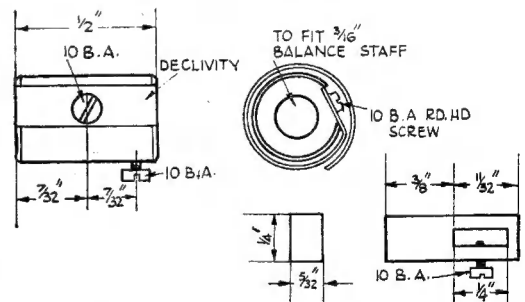

Fig. 20. Control spring collet and stud
Drill and turn up control spring collet from $\frac{1}{8}$ -in. brass rod, reducing the diameter to a fraction under $\frac{13}{32}$ in. Drill and tap two 10-B.A. holes at right angles to each other, and staggered by the distances shown in Fig. 20. File a declivity across the centre screw axis extending tangentially, inwards from the outer circumference to a depth of approximately 0.0165 in. This will give a "flat" of about $\frac{5}{32}$ in. on each side of anchorage screws. Leave the bore slightly under size, so that the final fit on staff can be accurately made by reaming. Polish both sides and edges, and fit two polished and blued 10-B.A. cheese-headed screws, making that for the centre with a well
(1) Bend a short length of the inner turn to a rather abrupt angle as shown in Fig. 20.
(2) Hold the spring very carefully by its outer coil and gently spring out the centre coil, with finger of left hand, until the anchorage hole is exposed.
(3) Place the collet roughly into position with end of spring abutting the deepest end of declivity.